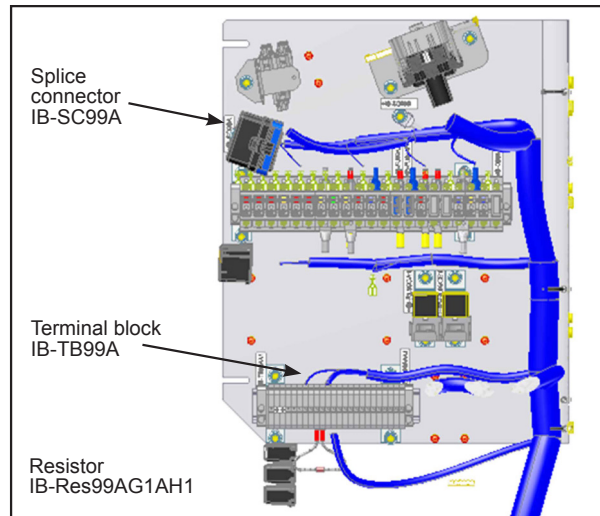

Figure 23 - IB Panel
**Terminal block** (see Figure 23).
**Splice connector** (see Figure 23).